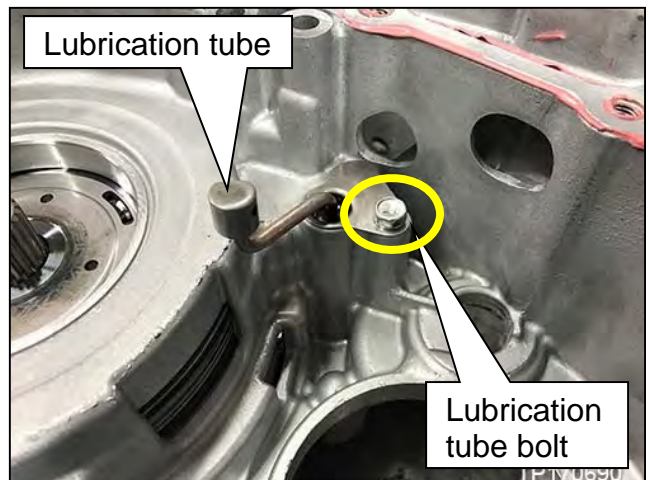

Figure 106
87. Remove the lubrication tube bolt, shown in Figure 106, and then remove the lubrication tube from the CVT case.